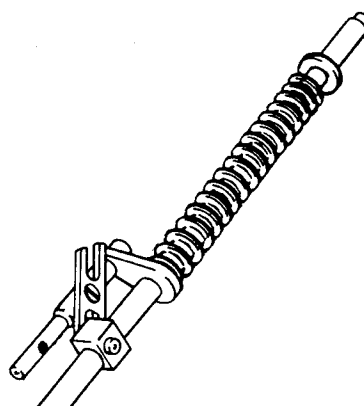

Fig H1.107
- (8) Refer to Fig H1.107. Fit the spring, guide bush and spacer tube.